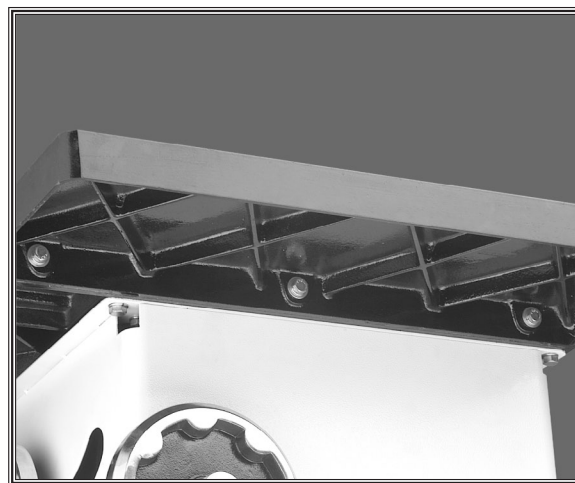

Figure 18. Extension wing attached to table.
1. Using the fasteners that come pre-installed in the table, attach the extension wings to the table, as shown in **Figure 18**. Do not completely tighten the bolts at this point.